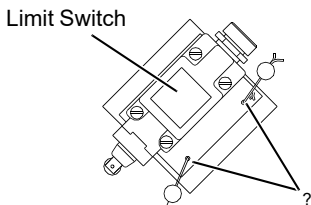

FIGURE 6-2
See Figure 6-2, View A for following procedure, unless otherwise specified.
3. Rotate actuator bracket to MAX angle position so hole (A) in actuator bracket lines up with hole in boom top.
4. Insert alignment pin through hole (A) in actuator bracket and into hole in boom top. *Make sure shoulder of alignment pin rests squarely against actuator bracket to ensure proper alignment for adjustment.*
5. Check position of MAX limit switch with relation to actuator bracket (Figure 6-2, View B).
7. Check position of MAX actuator with relation to actuator bracket (Figure 6-2, View B).
See Figure 6-2, View C for following procedure, unless otherwise specified.
3. Rotate actuator bracket to MIN angle position so hole (B) in actuator bracket lines up with hole in boom top.
4. Insert alignment pin through hole (B) in actuator bracket and into hole in boom top. *Make sure shoulder of alignment pin rests squarely against actuator bracket to ensure proper alignment for adjustment.*
5. Check position of MIN limit switch with relation to actuator bracket (Figure 6-2, View B).
7. Check position of MIN actuator with relation to actuator bracket (Figure 6-2, View B).
- c. Hole (B) in actuator bracket must line up with hole in boom top.